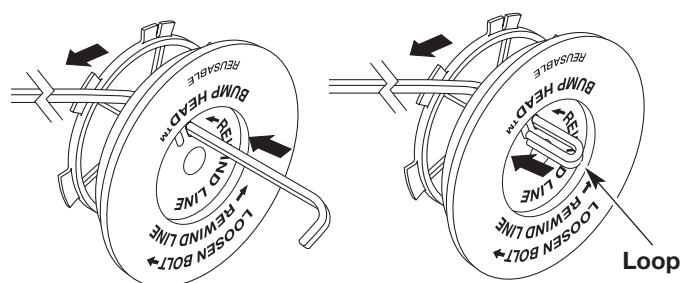

Fig. 37
- Take approximately 9 feet (3 m) of new trimming line. Insert one end of the line through one of the two holes in the inner reel (Fig. 37). Pull the line through the inner reel until only about 4 inches is left out.
- Insert the end of the line into the open hole in the inner reel and pull the line tight to make the loop as small as possible (Fig. 37).